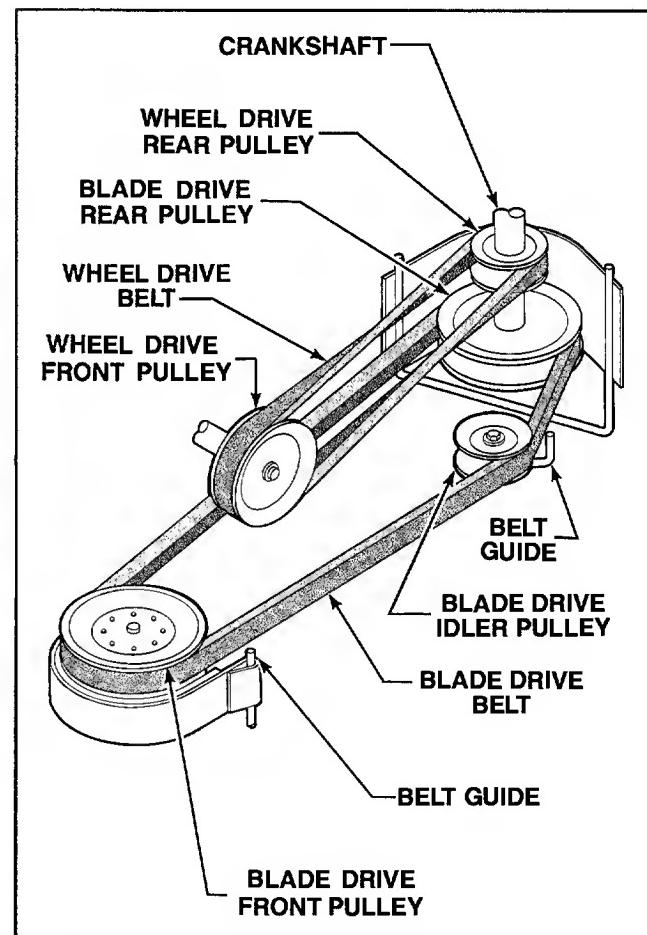

Figure 5-14: Wheel and blade drive belt/pulley systems.
- D. In the following steps, refer to Figure 5-14, which shows the wheel and blade drive belt/pulley systems.